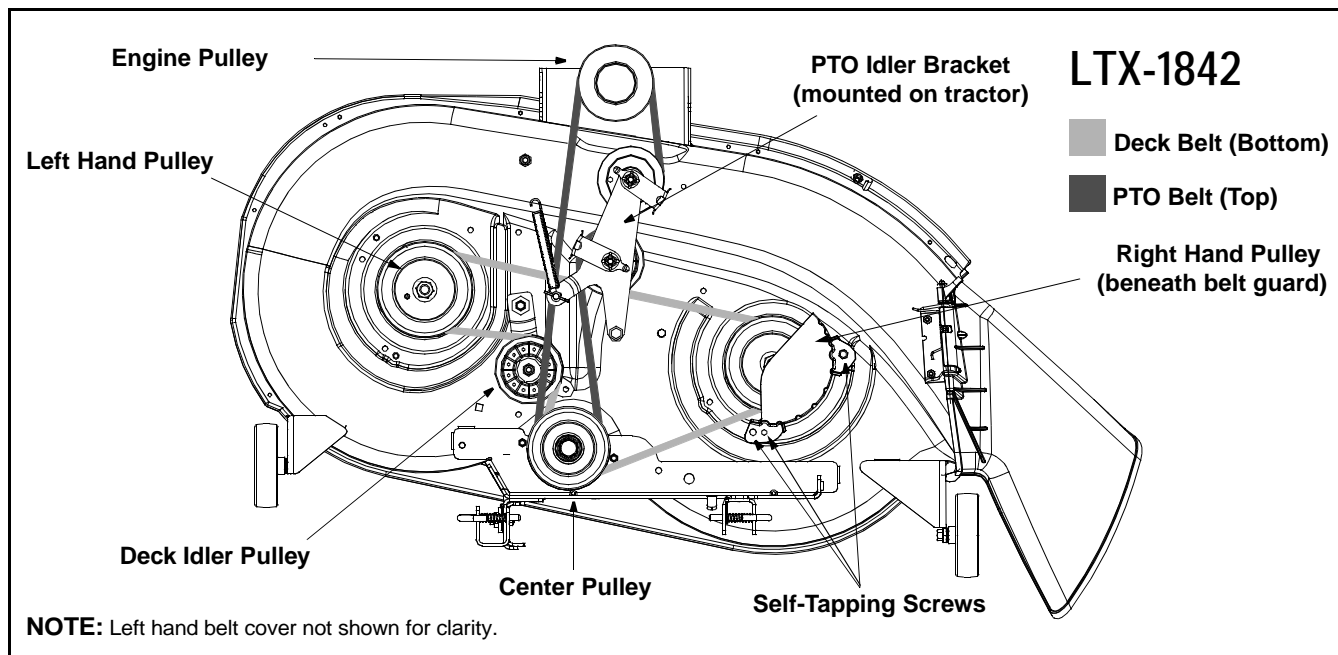
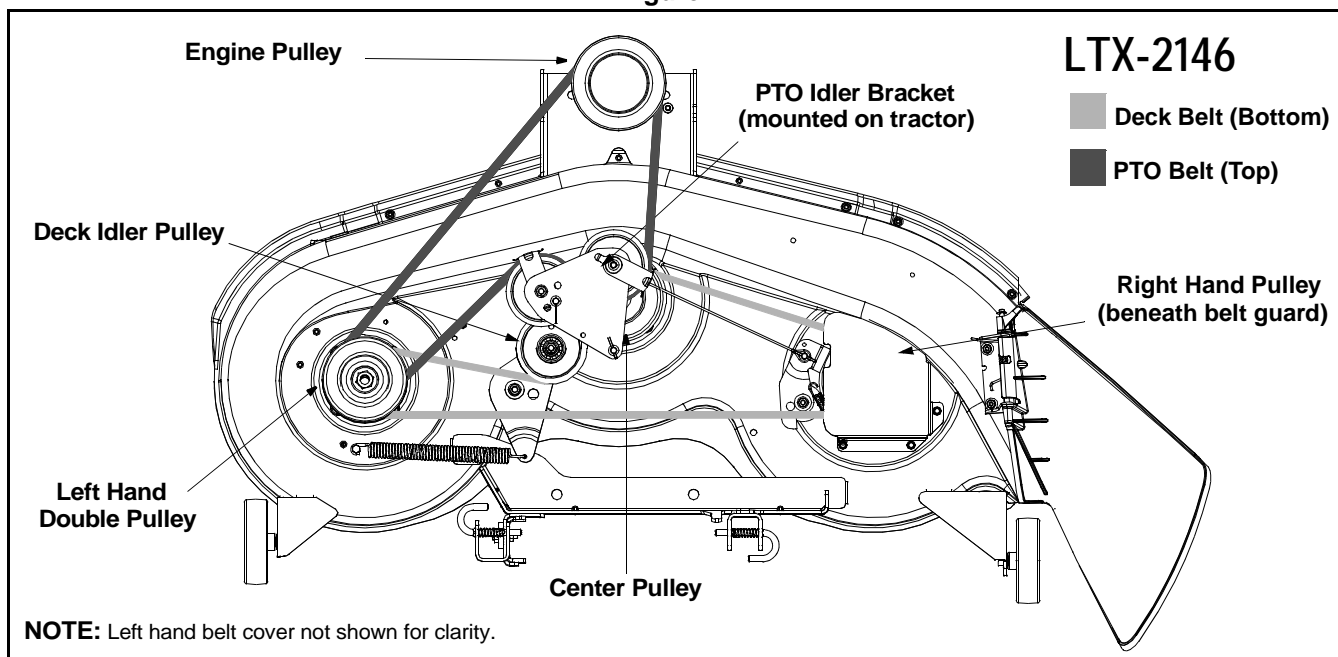

Figure 14
Figure 15
- On model LTX-1842, remove the PTO belt from around the cutting deck's center pulley. Refer to Figure 14. On model LTX-2146, remove the PTO belt from around the tractor's engine pulley and idler pulley(s). Refer to Figure 15.
- Route the new belts (deck belt first) as shown in Figure 14 or Figure 15.